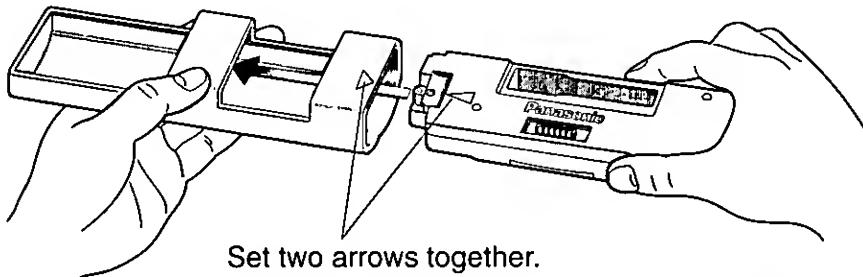

Fig.3
- ④ As shown in Fig.3, insert the removable face plate with the arrow pointing toward the removable face plate case until you hear a "click". Keep the removable face plate in the case. Then, you can bring the plate safely. (Only for CQ-R545/R525EUC)
⑩ Removable Face Plate Case